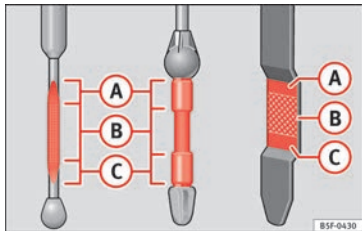

Fig. 230 Engine oil dipstick.
If the oil level is above area **» Fig. 230 (A)**, do not start the engine. This could result in damage to the engine and catalytic converter. Contact a Technical Service.
If the oil level is above area **» Fig. 230 (A)**, do not start the engine. This could result in damage to the engine and catalytic converter. Contact a specialised workshop.
The oil level must never be above area **»» Fig. 230 A**. Otherwise oil can be drawn in through the crankcase breather and escape into the atmosphere via the exhaust system.